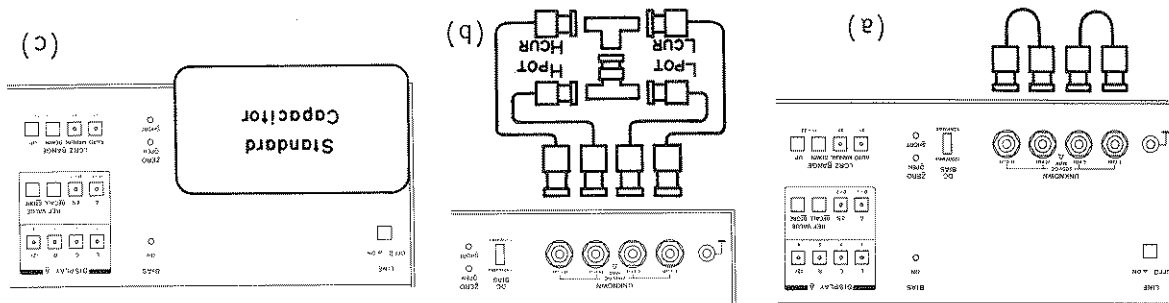

Figure 4-4. Capacitance Accuracy Test Setups.
- 6. Disconnect cables and connect 1PF Standard Capacitor direct to UNKNOWN terminals as shown in Figure 4-4 (c).
- 4. Connect cables and terminal adapters as shown in Figure 4-4 (b). Connect BNC tee adapters to each other.
- 1. Connect LCR and LPOT terminals with a BNC to BNC cable as shown in Figure 4-4 (a). Similarly connect HCR and HPOT terminals.